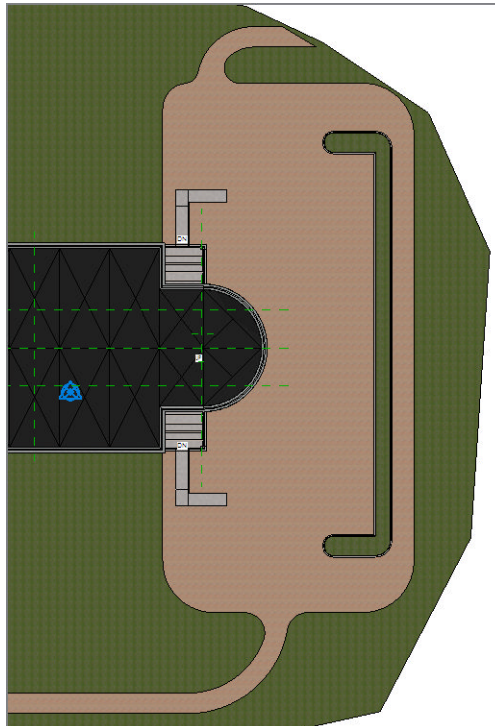

FIGURE 18.13: Adding the component to the parking lot
9. Place the parking island in a location similar to that shown in Figure 18.13. Note that you'll have to press the spacebar to orient the component correctly. Click Modify.
16. Click the Load Into Project button. Click Overwrite The Existing Version if prompted to do so. Your model should resemble Figure 18.13.